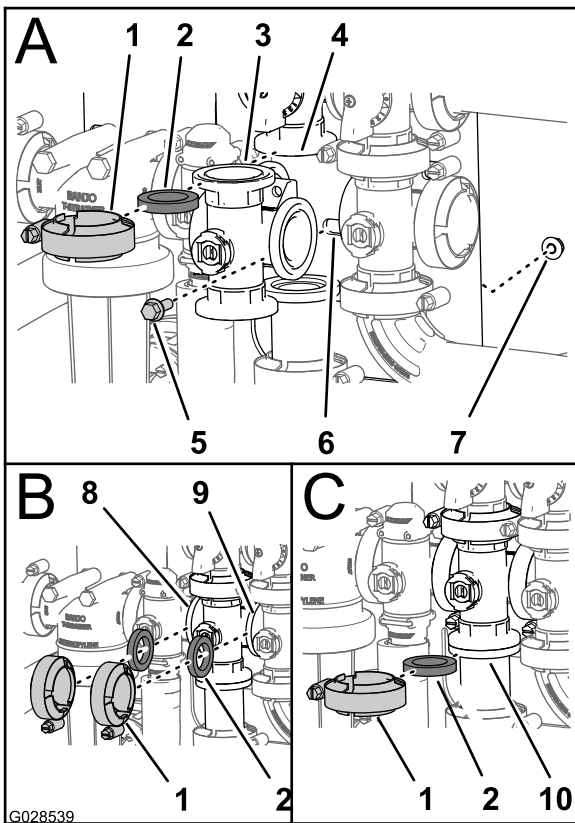

Figure 97
1. Align the flange of the agitation valve manifold, 1 gasket, and the flange of the agitation bypass valve (A of Figure 97).
2. Assemble the agitation bypass valve, gasket, and agitation valve manifold with a clamp tightened hand tight (A of Figure 97).
3. Align a 1 gasket between the flanges of the rate control valve and the agitation valve manifold (B of Figure 97).
4. Assemble the rate control valve, gasket, and agitation valve manifold with a clamp tightened hand tight (B of Figure 97).
5. Align a 1 gasket between the flanges of the agitation valve manifold and the master boom valve (B of Figure 97).
6. Assemble the agitation valve manifold, gasket, and master boom valve with a clamp tightened hand tight (B of Figure 97).
7. Align a 1 gasket between the flanges of the agitation valve manifold and the adapter fitting for the agitation throttle valve (C of Figure 97).
8. Assemble the agitation valve manifold, gasket, and adapter fitting with a clamp tightened hand tight (C of Figure 97).